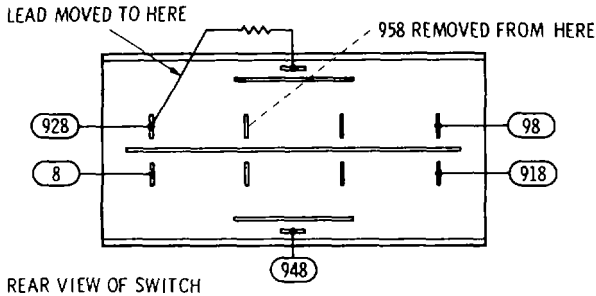

Figure 7-12. Modified Line Switch Wiring
- e. Remove white-green-gray (958) wire from switch and clip off near cable sleeve. This wire will no longer be used.
- f. Unsolder resistor lead from terminal where the white-green-gray (958) wire was previously attached and solder it to the terminal where the white-red-gray (928) wire is attached. Switch wiring should now appear as in Figure 7-12.